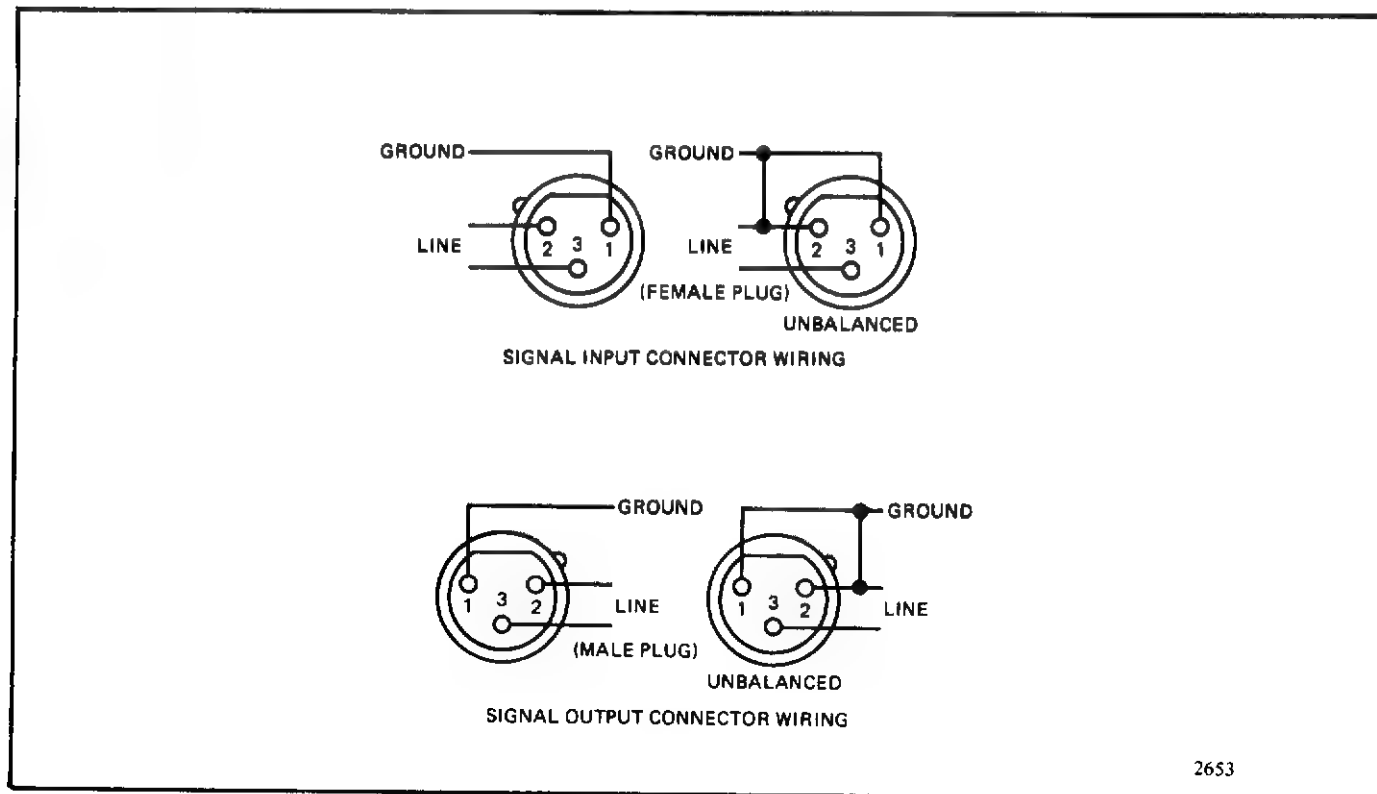

Figure 2-2. Input/Output Connector Wiring
1. Connect the input and output signal lines to their proper jacks, as marked on the rear of the signal electronics assembly. Type XL3 wire standard audio plugs (not supplied) are required for both input and output connections. See figure 2-2 for plug wiring details.